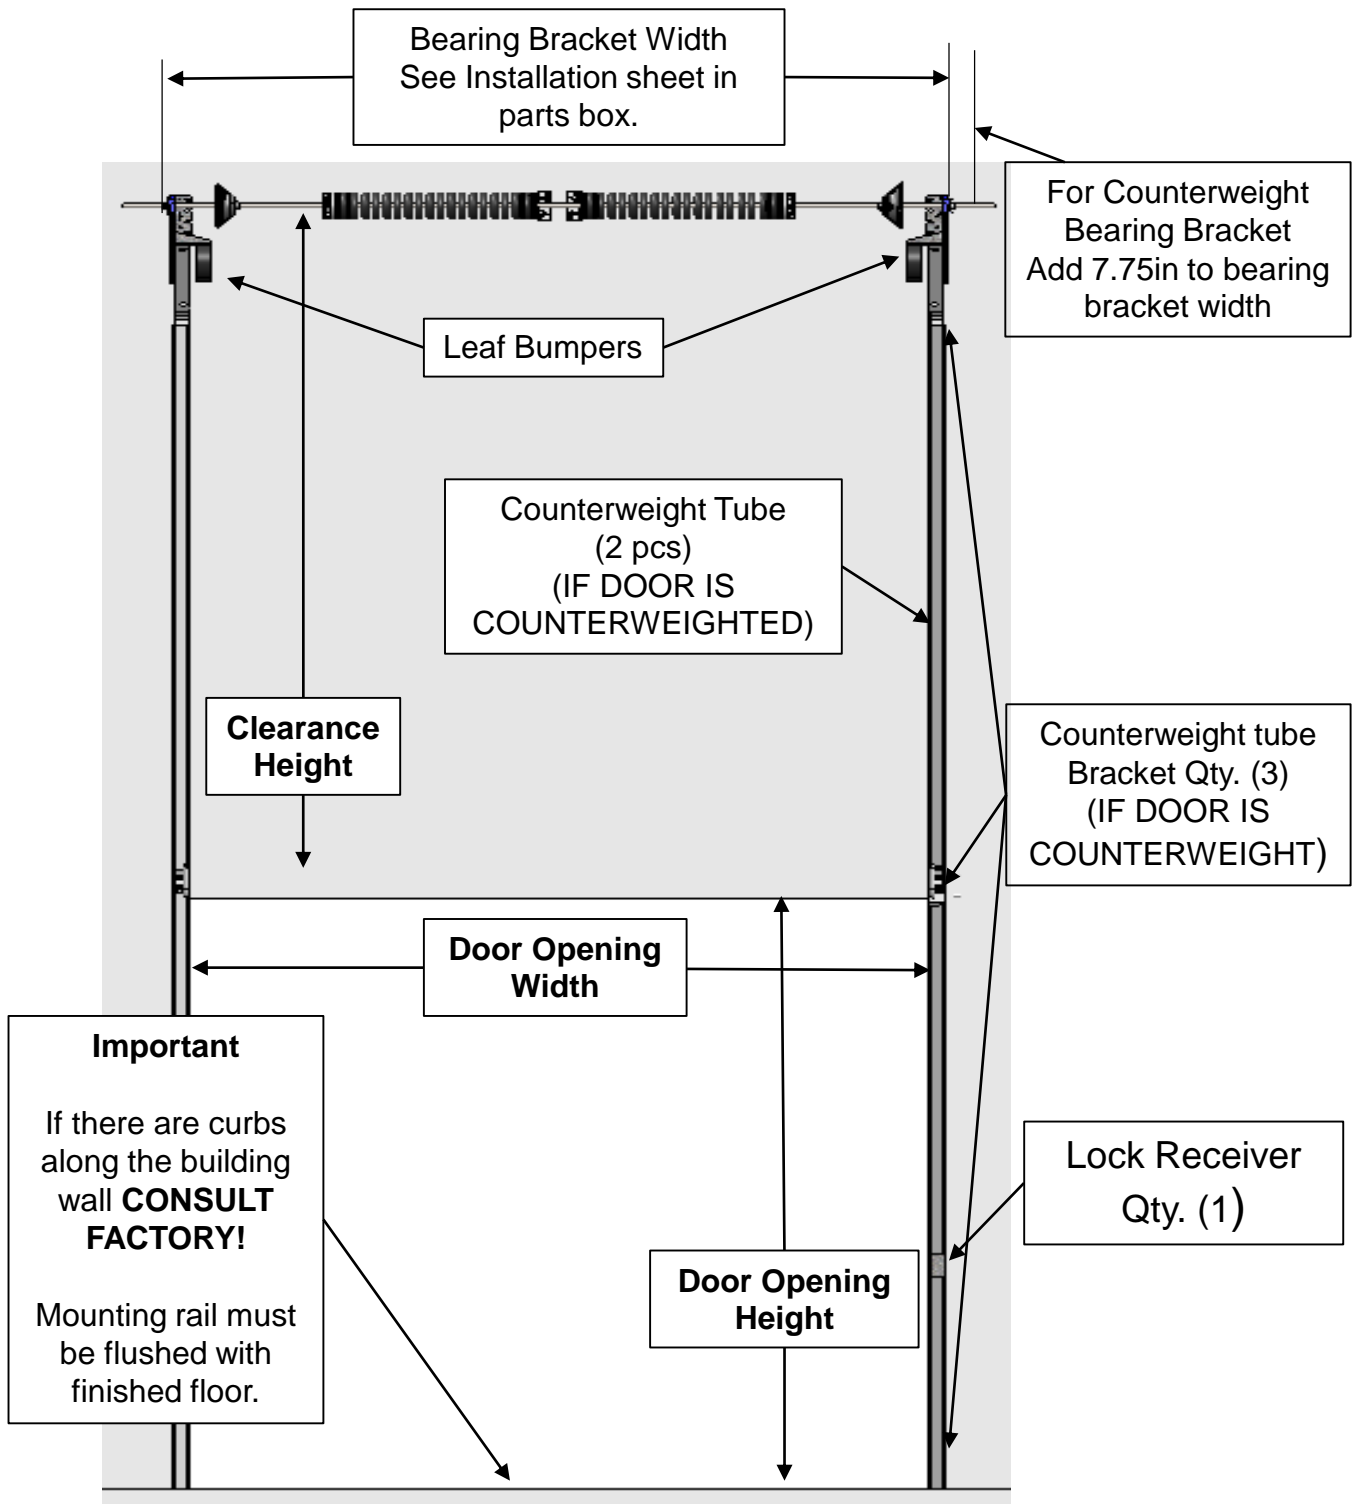

Figure 1 Key Measurements and Locations of Mounting Rails and End Bearing Assemblies.
3. Verify the minimum clearance to the sides and above the door. (**SEE FIGURE 1**).